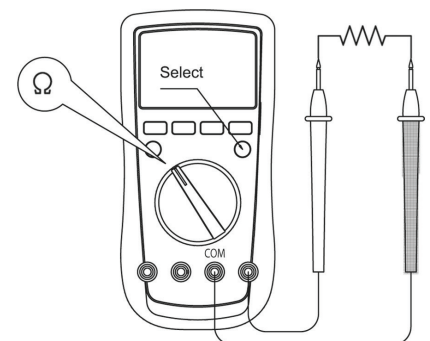

Figure 4
C. MEASURING RESISTANCE (See Figure 4)